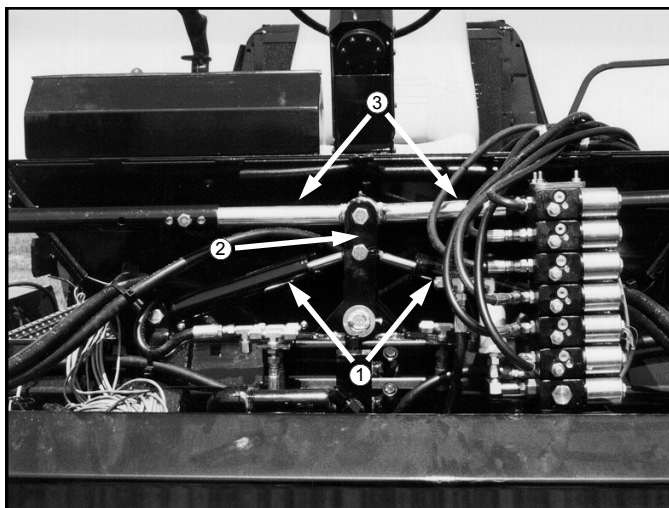

FIG 5.15
The full-time power steering system consists of a hydraulic steering motor (mounted on the end of the steering wheel shaft) which is connected to a pair of double-action steering cylinders (fig. 5.15, item 1) mounted on a steering pivot (fig. 5.15, item 2) which oscillates a pair of tie rods (item 5.15, item 3) going to each steering leg. This system is powered by one of the hydraulic dual gear pumps driven by the sprayer's engine. Since these gear pumps are sensitive to engine RPM (the higher the RPM the higher the oil flow), it is best to always operate the detasseler at full recommended RPM to ensure maximum steering responsiveness.